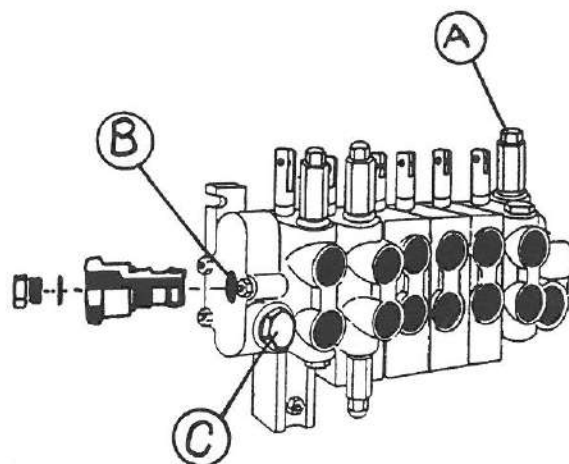

Figure 2
- A. Remove the cover nut at Point A (Figure 2) from the valve bypass. This exposes a socket head screw.
- A. Return hose must be connected with one end to the return section of the valve at Point C (Figure 2) and with the other end to the tractor.
- B. Remove plug at Point B (Figure 2) and install the closed center sleeve. Use the plug that was removed to plug the sleeve.
- C. Remove the O-Ring plug from the front of the outlet section of the valve at Point C (Figure 2) and replace with a C5315 8x10 adapter. Connect return line to the adapter and to oil sump of the tractor.